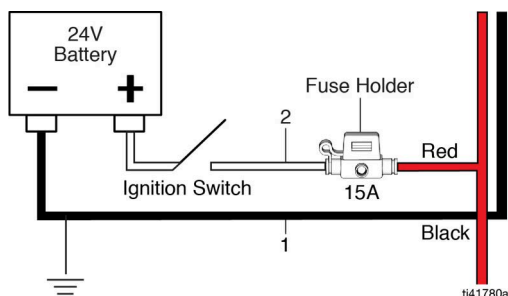

FIG. 26
2. Install fuse holder and fuse (included) to the power source, or use an add-a-fuse (user supplied) to power (FIG. 26).